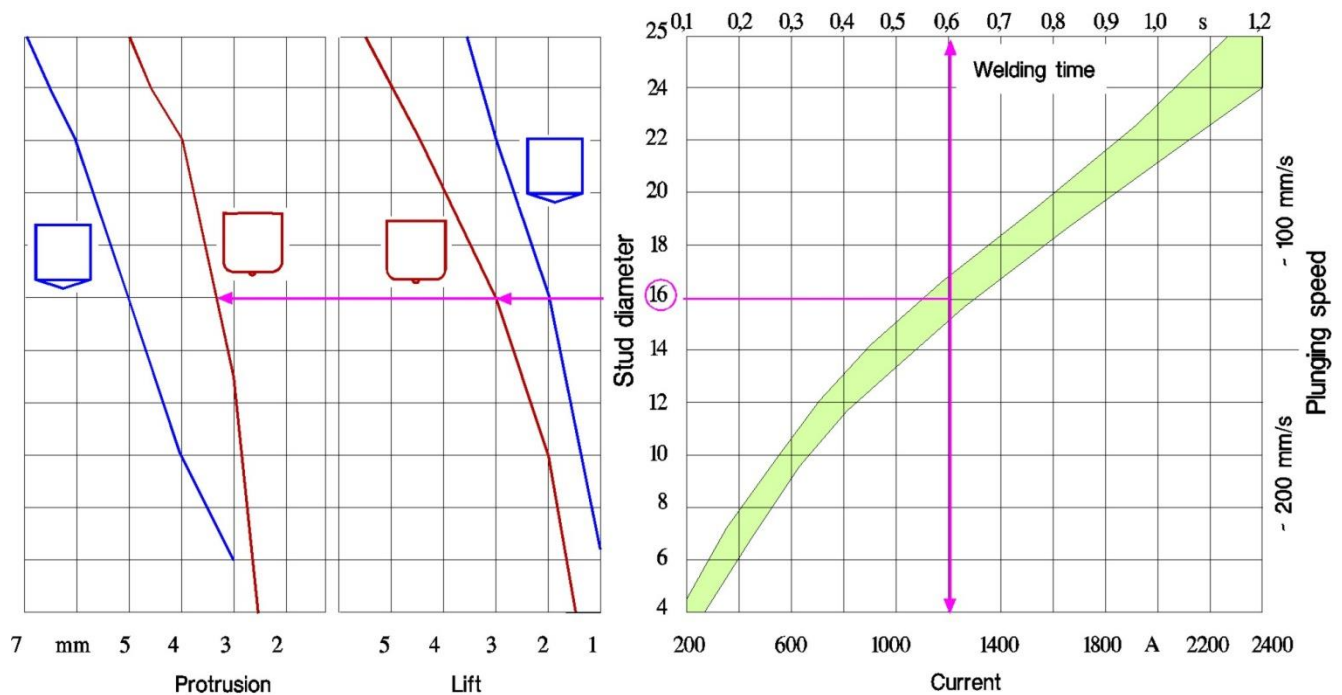
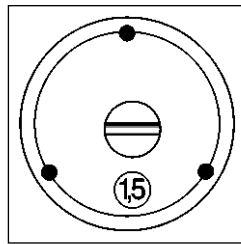

Figure 2: Parameters for current, time, lift, protrusion and damping (example stud 16 mm diameter with flat tip)
Figure 5: Selecting the lift (except series SK 14 and SK 15)
In stud welding, lift and protrusion are important parameters. In most cases they can be selected to fit stud diameters, according to figure 2. The position of the weld or the kind of surface on the workpiece may necessitate some adjustments. In such cases, optimal settings should be obtained through test welds.
The settings given in figure 2 have been tested for welds on **clean metallic surfaces** and standard type studs in **downhand position**. The decisive parameter is the actual diameter at the welding end of the stud, not the nominal diameter. Under different conditions (other welding position, or oily, scaly or primer-coated surfaces) the optimal settings must be determined by test welds. With difficult surfaces, it may be necessary to considerably increase lift and welding time, and to reduce the welding current. When welding in a horizontal position, it is recommended to select higher current and protrusion than the given settings and at the same time reduce welding time and lift. Please note that at the lower end of the welding range of large appliances it may be necessary to select values higher than those listed in the chart. This is caused by the relatively long phase for building up the current, which means that for a considerable part of the welding cycle the peak current is not yet reached. This must be compensated by lengthening the welding cycle or selecting a higher current.
9. Slide the footplate with the legs in the damping guides until the correct protrusion is reached, see figure 2. Figure 4 shows a diagram of the supporting device.
10. **Setting of the lift (except SK 14, SK 14 short und SK 15):** Open the rear cap of the gun. Behind it there is an adapter screw for adjusting the lift in steps of 0.5 mm (figure 5). **Do not set any in-between values!** Select lift settings according to figure 2.
The lift can only be adjusted in 0.5 mm steps. **Do not try to set any intermediate values!** Follow the instructions according to figure 2 when setting the lift.
A frequent fault is a so-called plunging impediment. It occurs whenever the plunging movement of the stud is cut short and the stud comes to a halt above the welding pool (see chart 2 figure 4). In case of only a minor impediment the plunging of the stud may not be stopped, but delayed. In this case a “cold weld” with an incomplete connection may result, without any faults showing on the outside (chart 2 figure 5). Therefore the final assessment of a weld should never be made on the basis of visual tests alone, without mechanical tests being carried out as well.